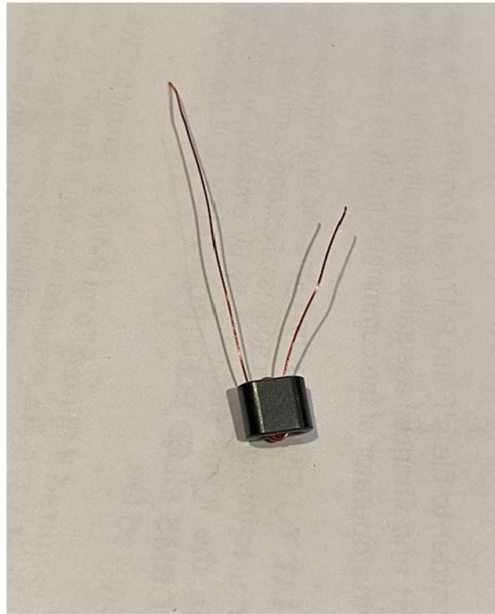

Figure 13. T2 Transformer Primary – 3T of #30 Magnet Wire
- iii. Start with the 4" piece of wire. Leave about a 1" lead and wind three turns (3T) on the core. This is the primary of the transformer. See Figure 13.